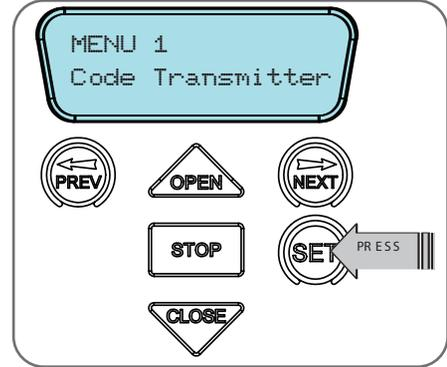

Fig F.5
- Press NEXT to navigate to Menu 1 "Code Transmitter" (**Fig. F.5**).